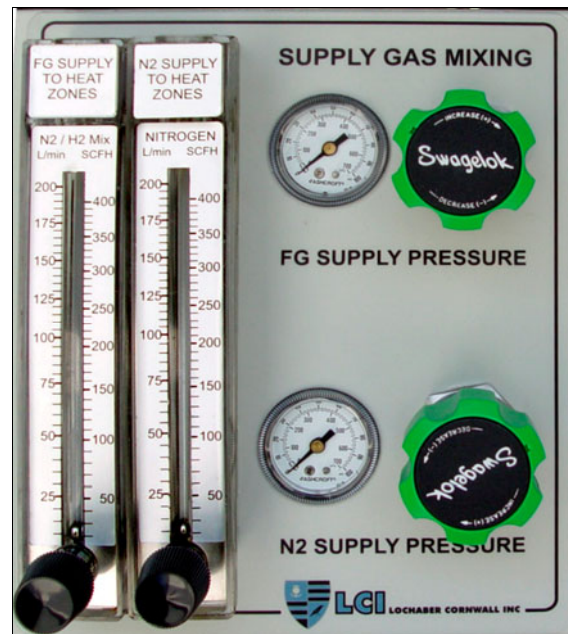

Figure 0-20 Supply Gas Mixing System Control Panel
The GSM system includes two (2) high flow 0-3500 psig pressure regulators each with a 0-100 psi pressure gauge and flowmeter. Users can adjust for 100% forming gas to the furnace for critical reducing operations and later quickly switch to nitrogen to conserve higher cost specialty gas. User can also adjust flowmeters to increase amount of nitrogen in the forming gas mix (Figure 0-20).